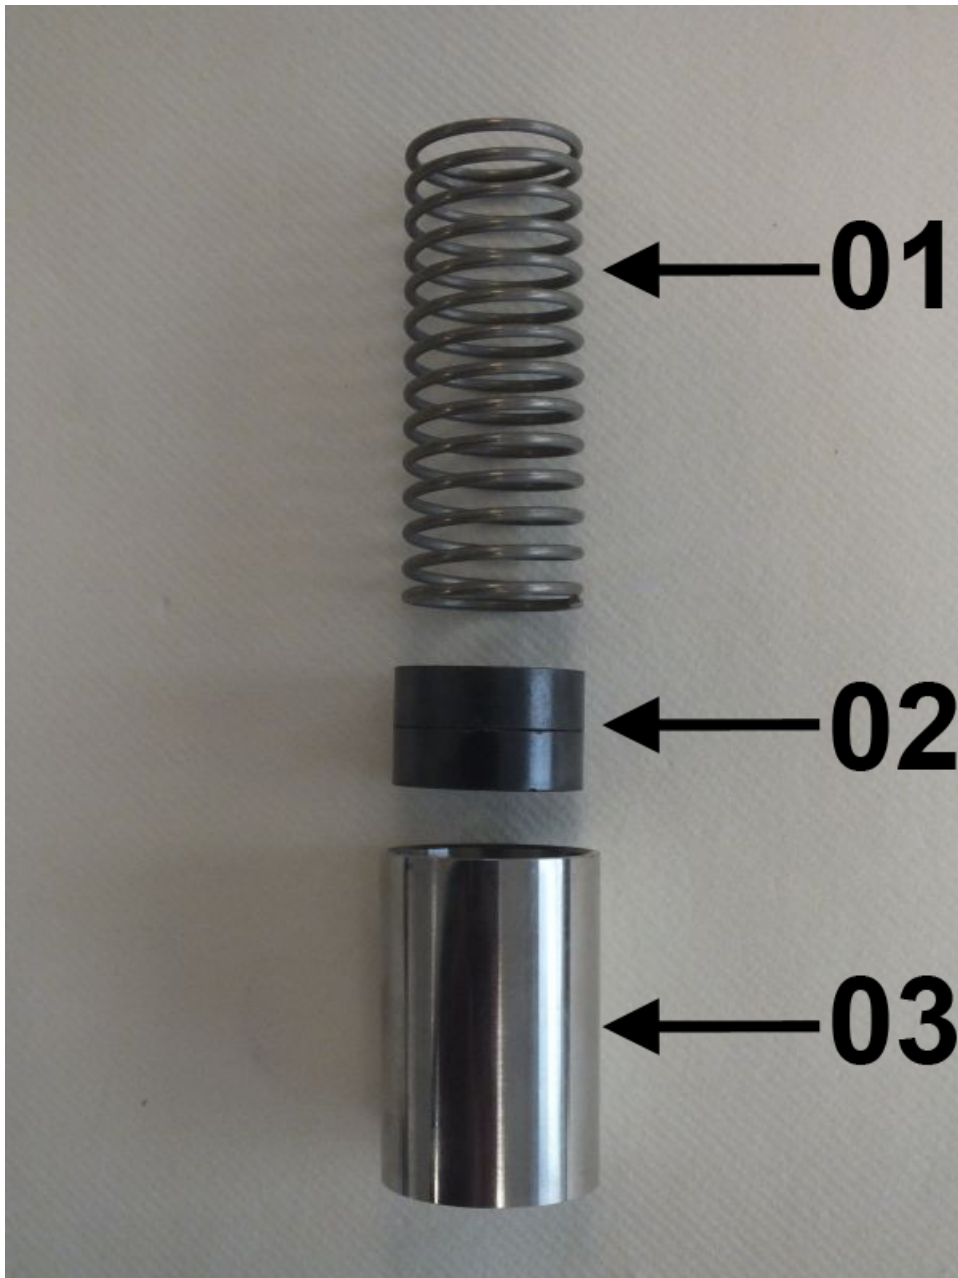

Fig. 59: Inner parts
8. ➤ Insert spring (*Fig. 59/01*) with magnets (*Fig. 59/02*) into the float (*Fig. 59/03*) ensuring proper magnetic pole orientation (north pole toward device outlet)